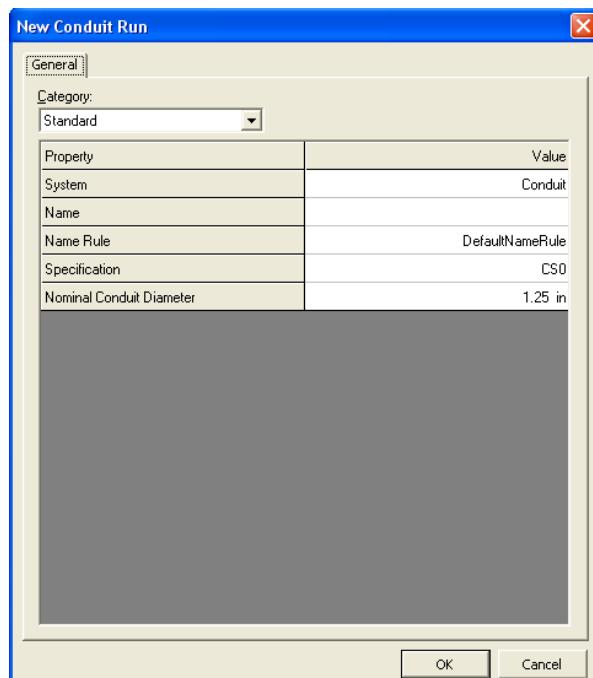

Figure 19: New Conduit Run Dialog Box
19. The New Conduit Run dialog box appears on the screen. Click OK to accept the default values of the new conduit run, as shown in Figure 19.